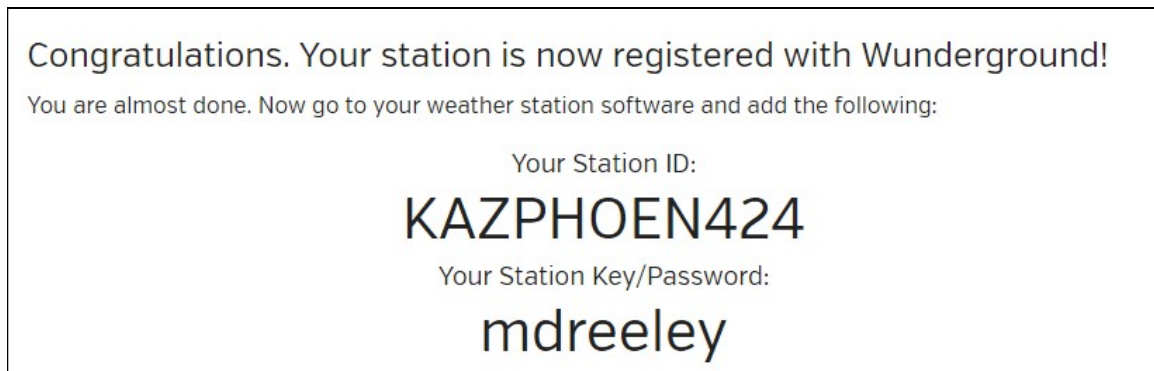

Figure 13
5. Once registered, you receive a station ID and password. Make a note of this. You will need to enter it into your weather station web interface shown in Figure 12 (Figure 13 is an example and your station ID and password will be different).